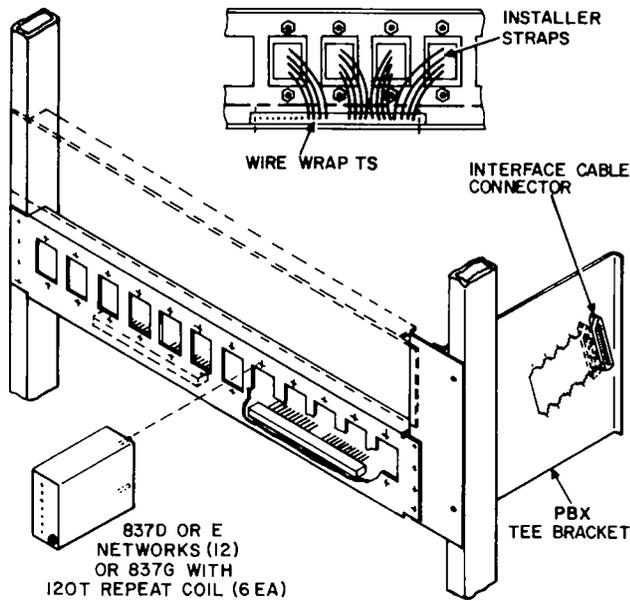
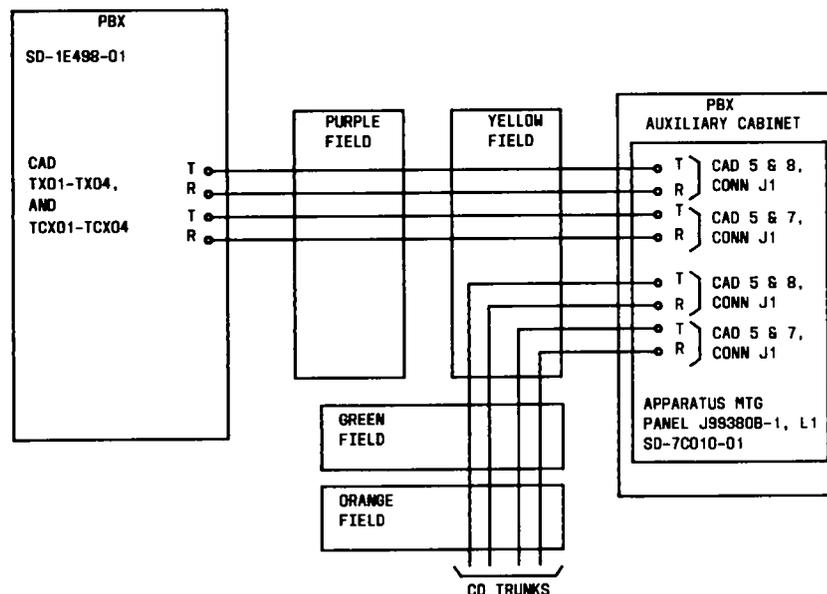

Fig. 17—Shelf and Assembly for 837-Type Networks (J99380B)
Fig. 18—Network Mounting Panel to DIMENSION PRELUDE PBX Interconnection (J99380B)
**4.44** The terminal balancing network panel (J99380B) is shown in Fig. 17. Interconnection information for the terminal balancing network panel (J99380B) and DIMENSION PBX is shown in Fig. 18.